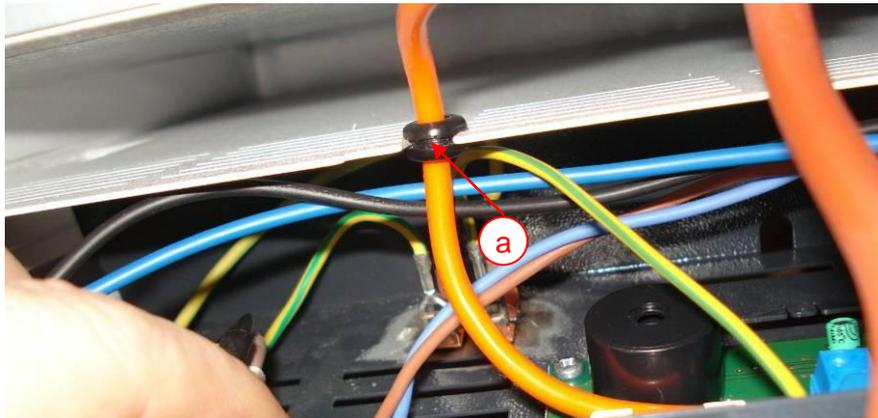

Fig. 28 – bushing at compensation wire
- Install new wire in reverse order. Change the bushing (Fig. 28) from old to new wire.